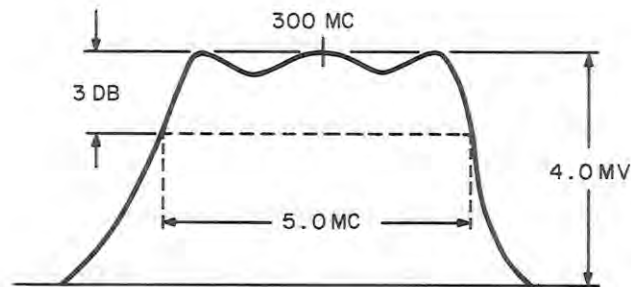

Figure 5-13. RF Response of 90 to 300 mc Tuner
- g. The RF response displayed on the scope should have the characteristics illustrated in Figure 5-13.
- j. The marker should remain on the top of the response over the tuning range of the tuning unit. The response shape should remain essentially as indicated in Figure 5-13, above. Further slight readjustment of the capacitors in Step h may be necessary to obtain a suitable response over the entire tuning range.